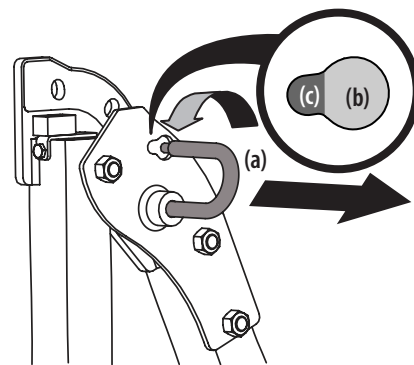

Figure 3
1. Pull slightly up on the upper ROPS to relieve any tension on the locking pin (a) and rotate the locking pin (a) from the LOCKED (b) position into the ADJUSTMENT (c) position. See Figure 3. Repeat the procedure for the locking pin on the opposite side.